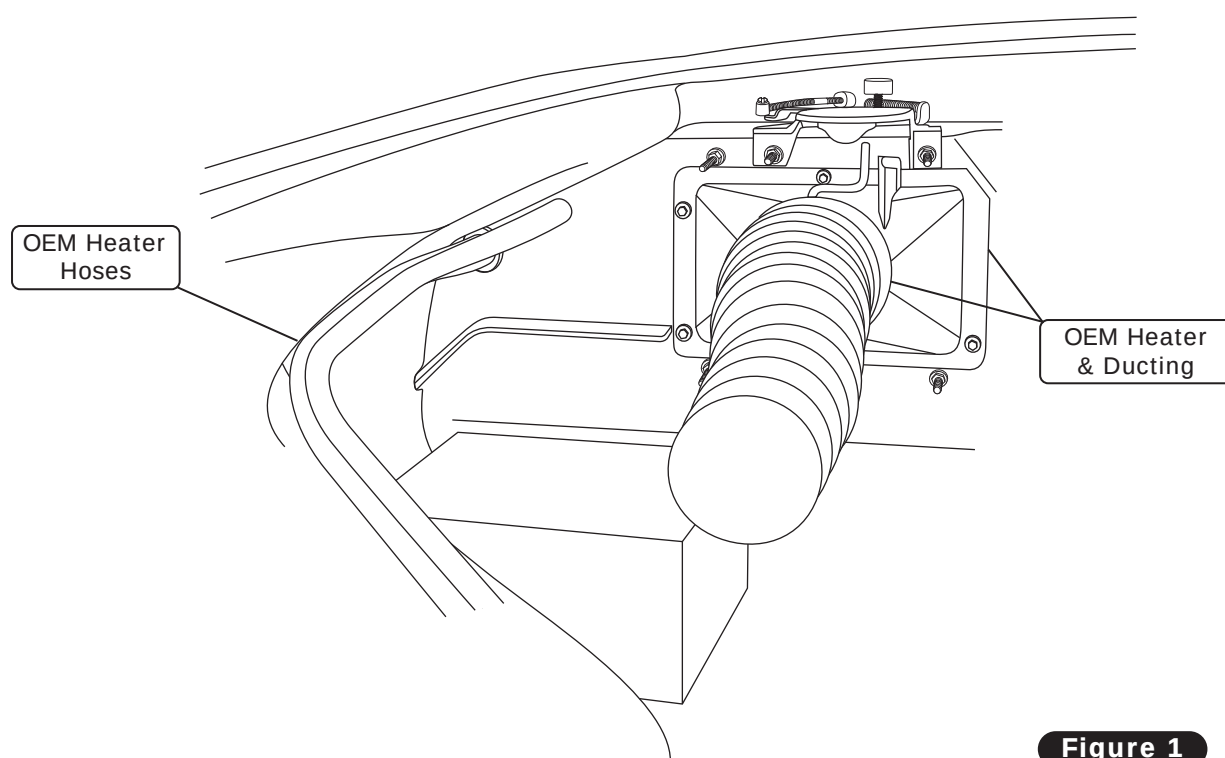

Figure 1
4. Remove the OEM heater hoses (discard) (See Figure 1, below).